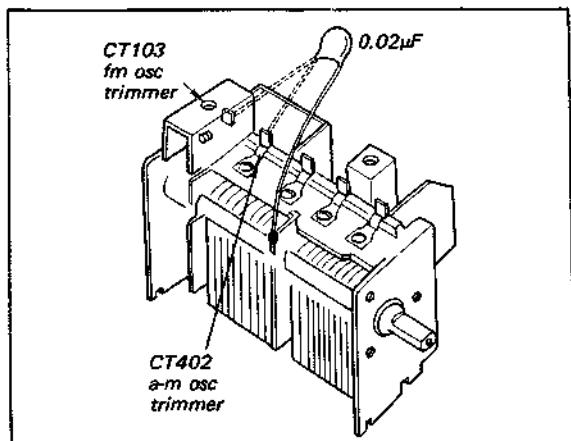

Fig. 3-2. Interruption of fm or a-m local oscillator operation
**Note:** Local oscillator should be killed when performing this alignment. To stop the local oscillator operation, shunt the oscillator capacitor with a  $0.02\mu\text{F}$  capacitor as shown in Fig. 3-2.